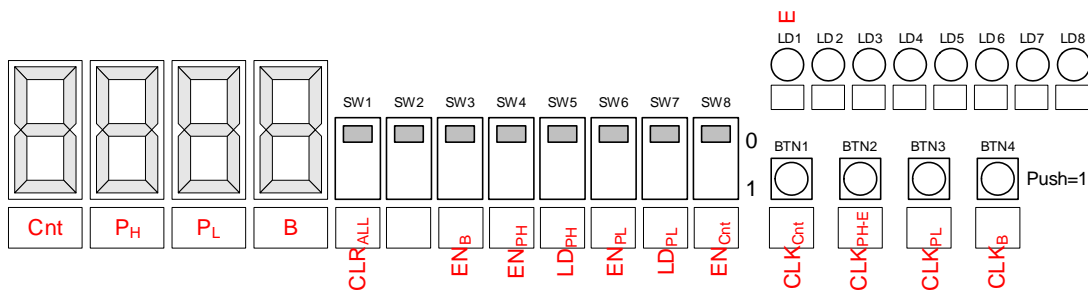

Figure 12.6: Data Path Inputs/Outputs Assignment.
6. See Figure 12.6 for inputs/outputs connectivity.